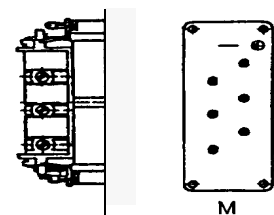

Figure 27 DIN male connector.
- 134 Connection via an industrial Harting 6HSB connector in accordance with DIN 41640. 35 A, 600 V, 6p + PE (see Figure 27).